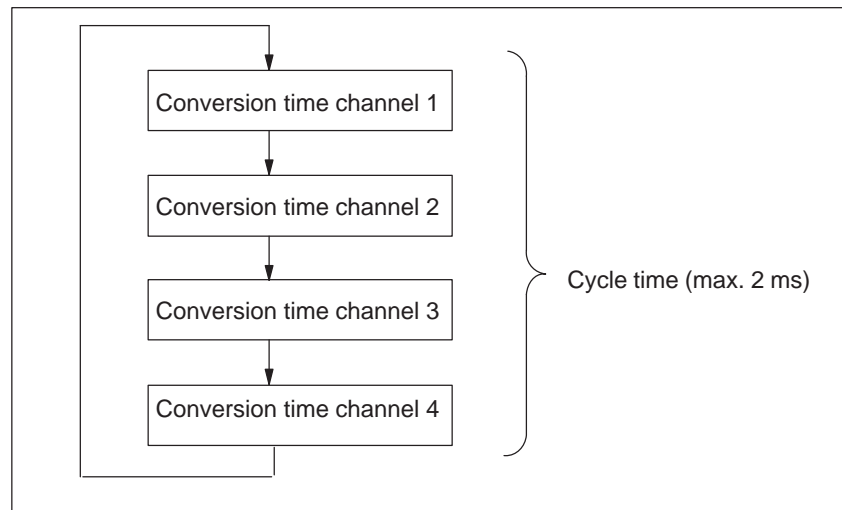

Figure 7-19 Cycle time of an Analog Input
- Figure 7-19 illustrates an overview of how the cycle time for a 4-channel analog input is composed.